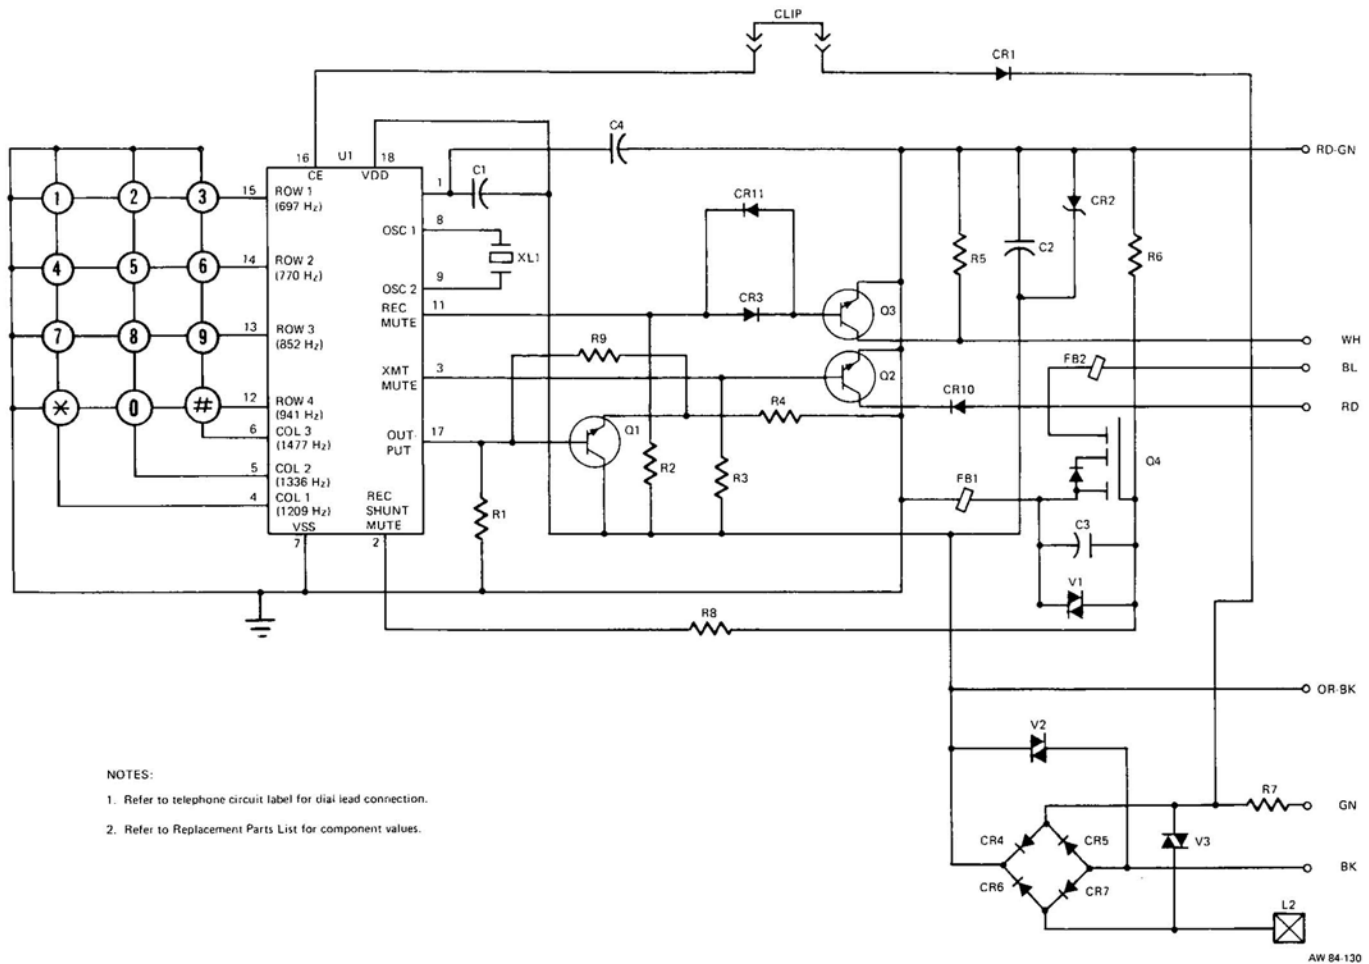

Figure 3: Model 42 Pushbutton Dial, Schematic
2.04 The tone-generating PCB consists of a DTMF generator integrated circuit (IC), a crystal oscillator, and various other solid-state components. The crystal oscillator provides a constant reference for the tone generator IC that generates eight digitally-synthesized tones. The other solid-state components, along with the IC, provide hand-set receiver and transmitter muting, and polarity guard. (See Figure 3.)